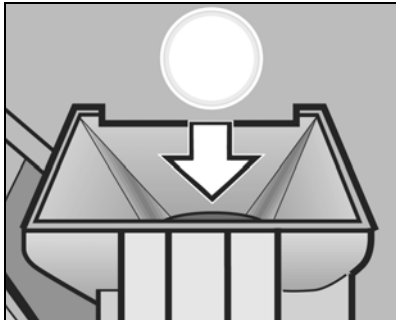

Figure 5-24: Placing Cleaning Tablet into Brew Unit Funnel
2. Take out the brew unit and put the cleaning tablet in the brew unit funnel. See Figure 5-24.